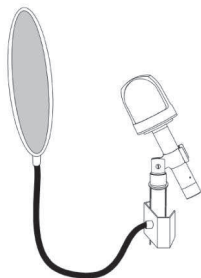

Fig. 8
5. In order to extend the life of the microphone, it is recommended to use a pop screen when working with vocalists (Fig. 8).